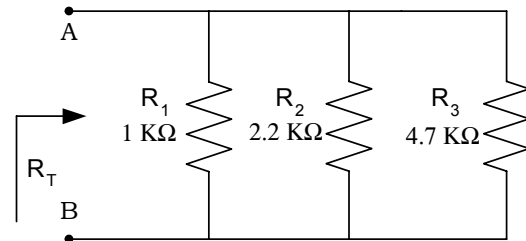

Figure 4.3
2. Construct the circuit as shown in Fig 4.3.